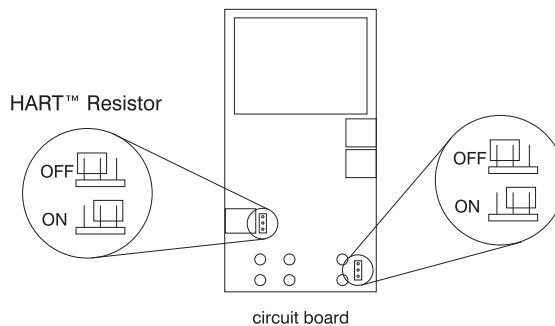

Figure 10a.
4. Figure 10a. shows the location of the Hart™ jumpers.